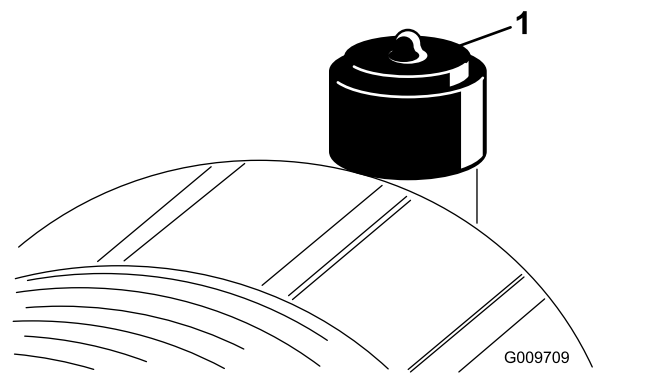

Figure 76
Service the air-cleaner filter only when the service indicator (Figure 76) requires it. Changing the air filter before it is necessary only increases the chance of dirt entering the engine when you remove the filter.
2. Reset the indicator (Figure 76) if it shows red.